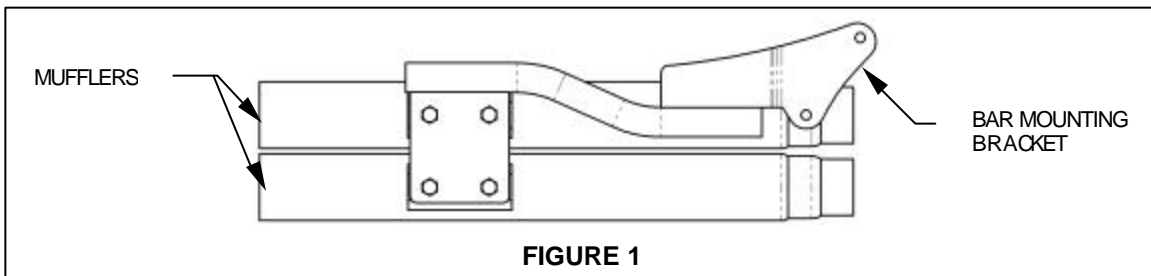
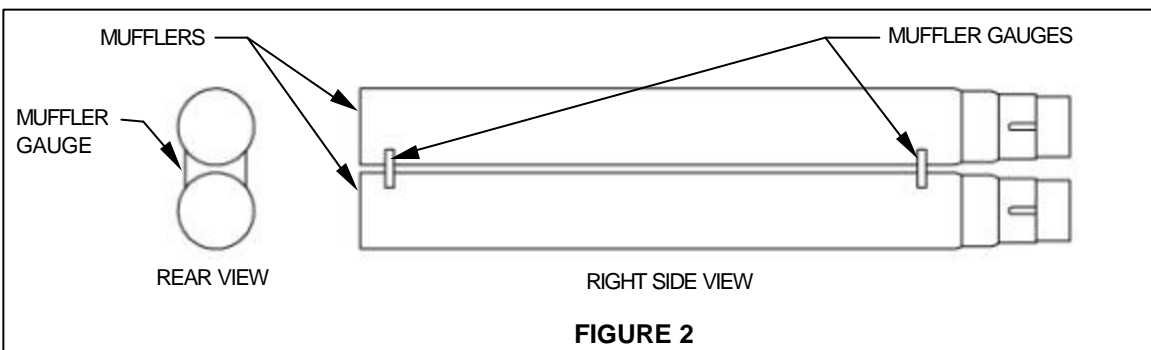

FIGURE 1
FIGURE 2
3. Remove the exhaust mounting bracket from the box and place on top of the muffler brackets with the frame mounting bracket up and to your right (see Figure 1). Install the four 5/16 x 5/8 bolts through the mounting bracket and into the slider bracket but **DO NOT TIGHTEN**. Locate the two cardboard gauges and place them between the mufflers to help hold the mufflers parallel. (refer to figure 2). Make sure the mufflers are even on the exit end and the mounting bracket is in the middle of the muffler brackets and tighten the bolts.